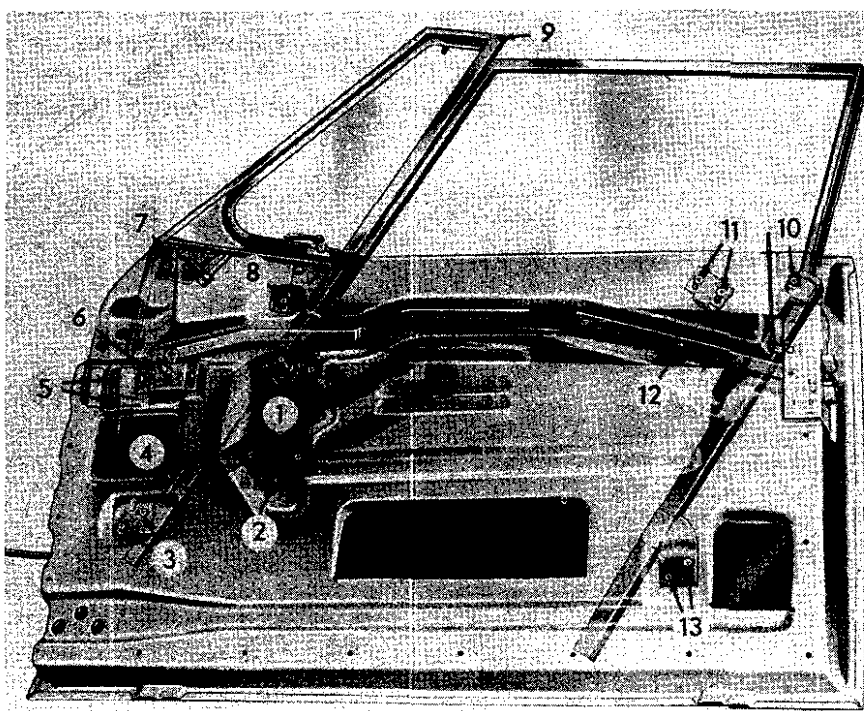

FIG. 172
Remove the two screws (9, Fig. 172) holding the window stop to the ventilator frame and remove the
loosening the screw (10, Fig. 172) at the top and the two bolts (13) at the bottom of the door. By shifting the guide in the elongated slots in the door inner panel, adjust so that the window has the greatest ease of movement during its travel.
Remove the door window glass as outlined under Door Window Glass—Removal. Remove the screws (7 and 8, Fig. 172) at the door inner panel. Inside the door panel remove the stud nut (6). Disengage the
To move the assembly forward or rearward, loosen the ventilator frame-to-door screws (7 and 8, Fig. 172), bracket nut (6), and rear bracket-to-door bolts (3). So that the window may shift with the ventilator assembly, loosen the rear guide screw (10) and bolts (13). Shift the ventilator assembly forward or rear-
If the ventilator frame has an inward or outward tilt, the assembly may be adjusted by shifting the lower end of the ventilator frame on the rear bracket. Loosen the ventilator rear bracket-to-run nuts (4, Fig. 172). Move the ventilator frame on the bracket as required to correct the tilt condition. Then move the door window rear guide on the bracket to maintain